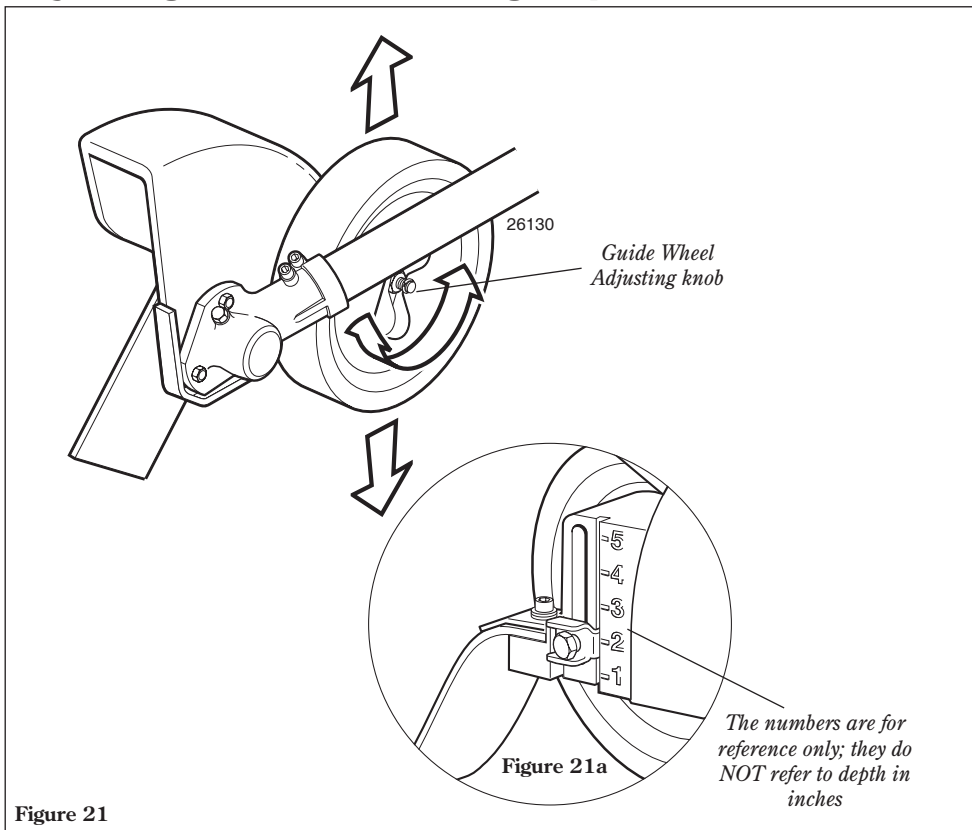

Figure 21
1. Loosen the guide wheel adjusting knob. See Figure 21.
3. Tighten the guide wheel adjusting knob firmly. See Figure 21.